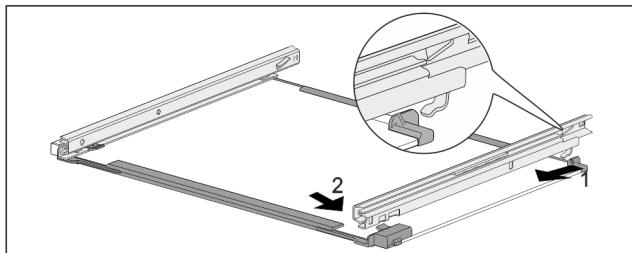

Fig. 174 Glass shelf with rails
- ▶ Hook in rail at the back. Fig. 174 (1)
- ▶ Hook in rail at the front. Fig. 174 (2)